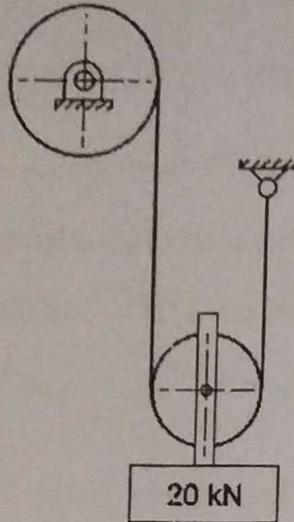

Figure 1
11. (a) A 6 × 19 wire rope with fiber core and ultimate tensile strength of 1570 N/mm² is used to raise the load of 20 kN as shown in figure 1. The nominal diameter of the wire rope is 12 mm and the sheave has 500 mm pitch diameter. Determine the expected life of the rope assuming 500 bends per week.